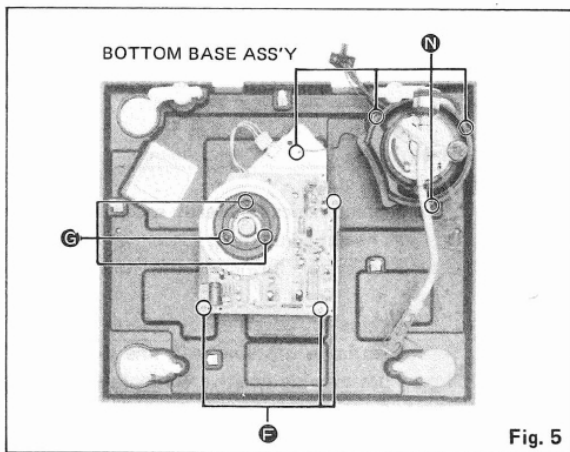

Fig. 5
11. Remove 3 screws **F** of the drive circuit board and 3 screws **G** of the stater frame cover as shown in fig. 5.
17. Remove 4 screws **N** as shown in fig. 5.